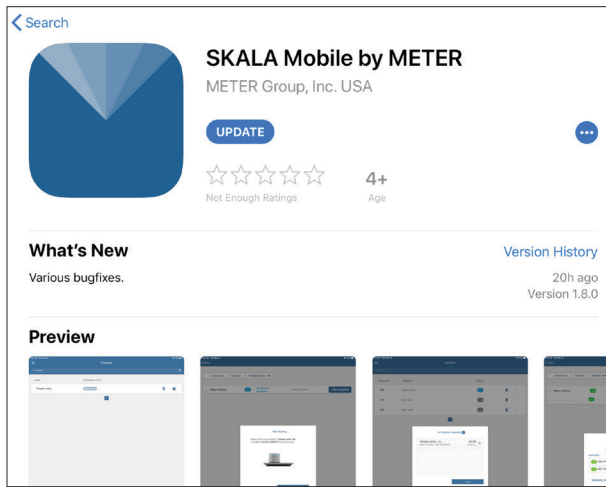

Figure 5 SKALA Mobile by METER screen
4. Download the SKALA Mobile by METER app (Figure 5).